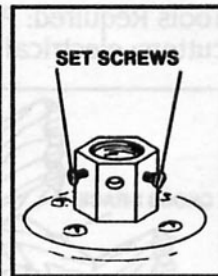

FIG. 6
Step 2. Loosen the two set screws in the top coupling of the top housing assembly. (Fig. 6)